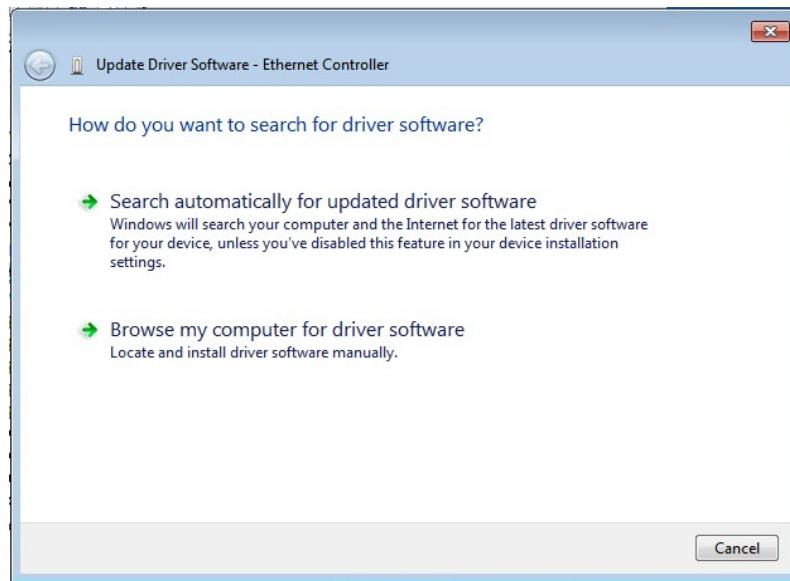

Figure 6-16: Update Driver Software Window
Step 7: The Update Driver Software Window appears (Figure 6-16).